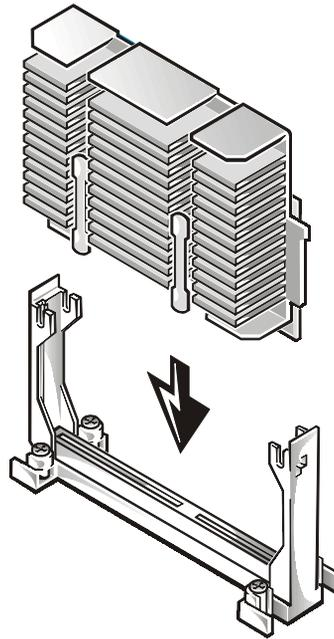

Figure 4. Installing the Microprocessor
1. Insert the new microprocessor into the system board connector (see Figure 4). Press the microprocessor firmly into its connector until it is fully seated and the latches snap into place.